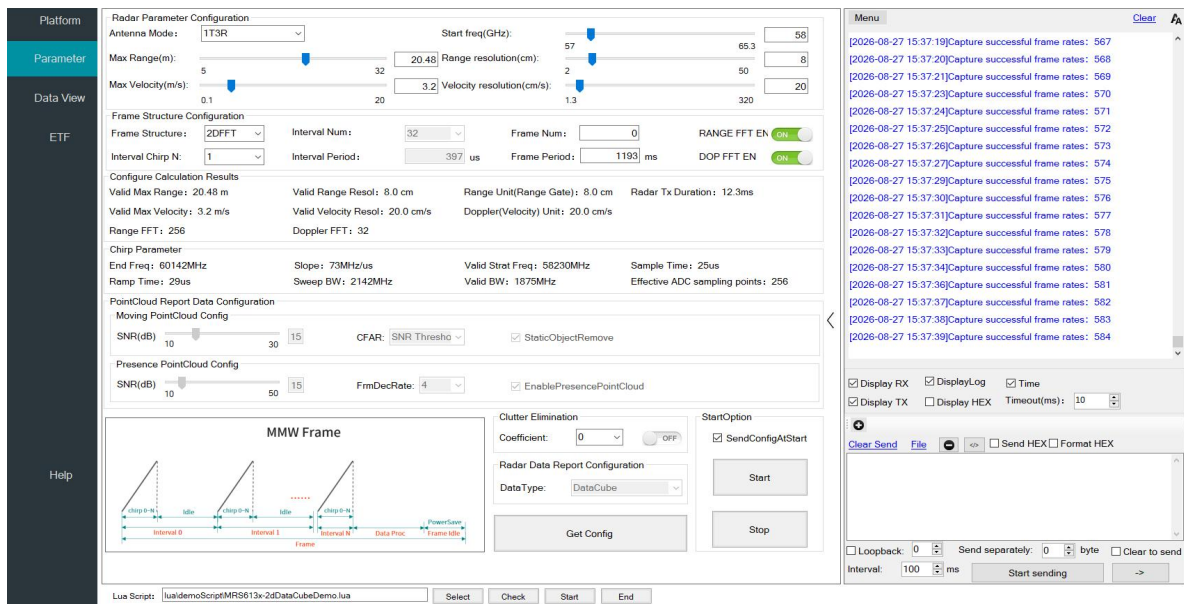

Figure 2-13 2D DataCube Default Configuration Page
3. This display uses a fixed one-click radar configuration that cannot be modified. The configuration is shown in Figure 2-13.